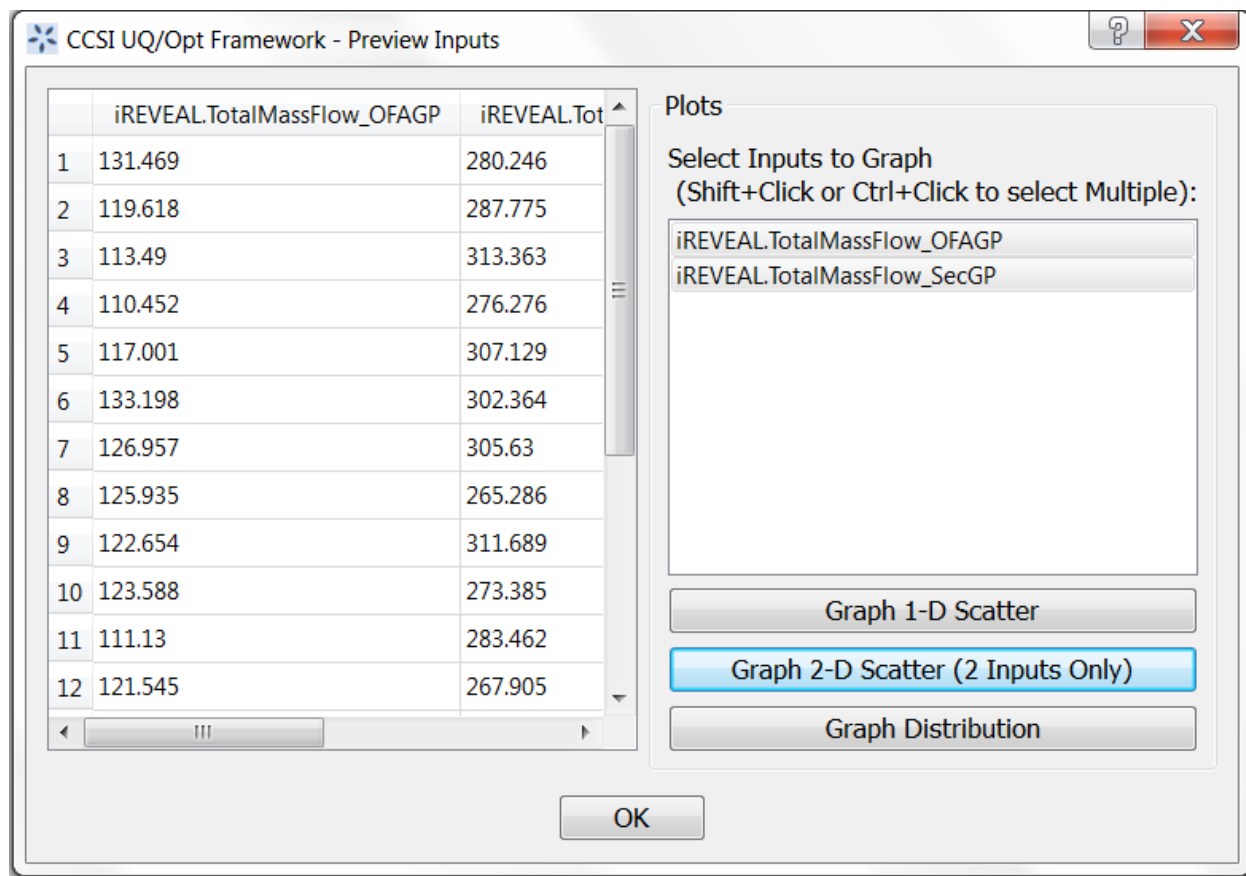
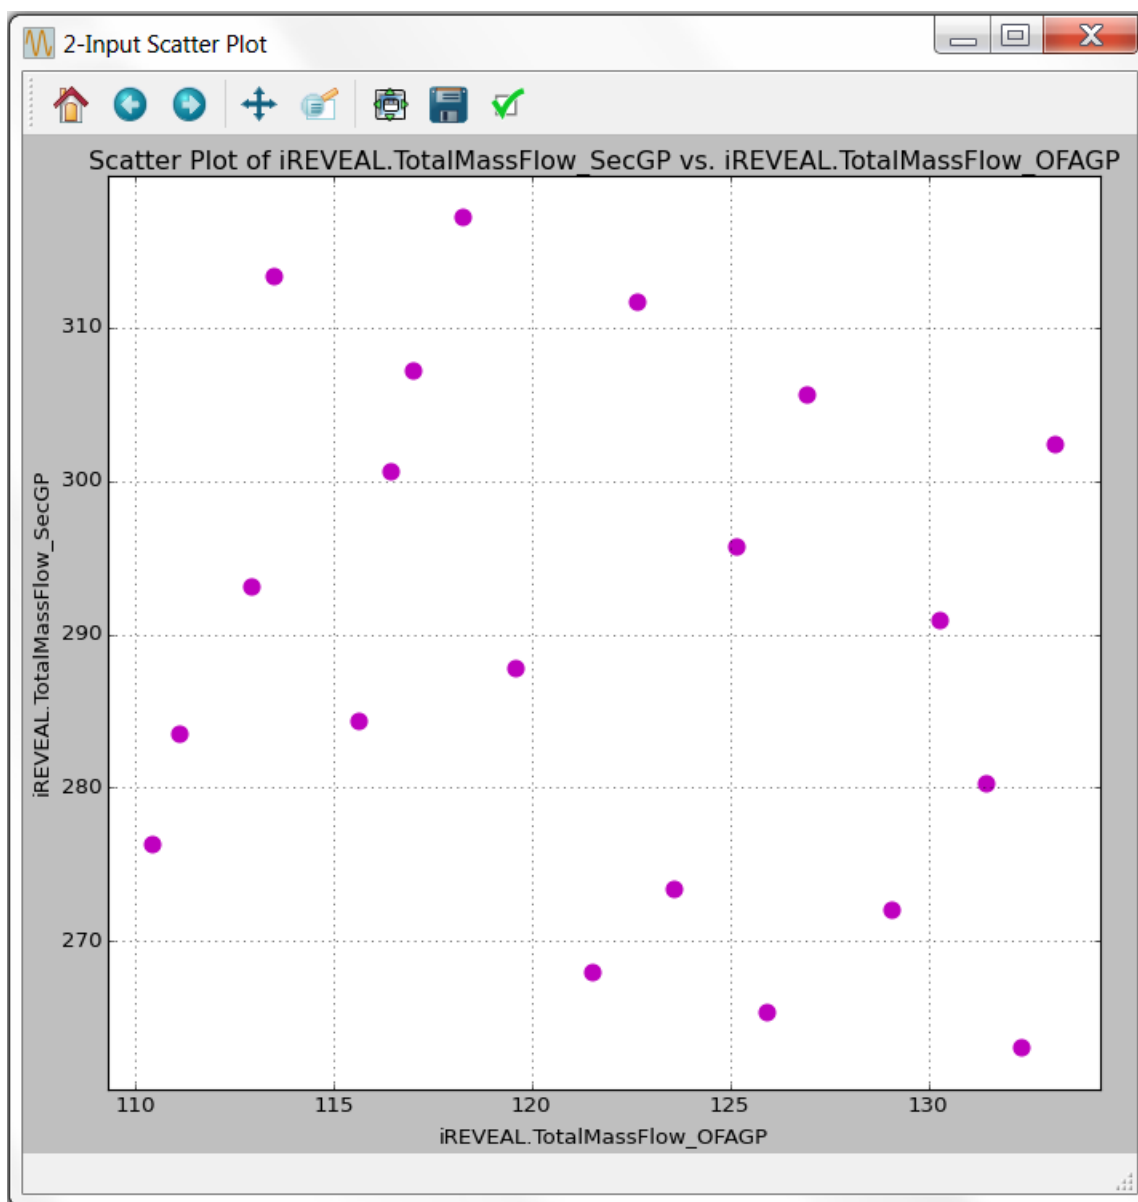

Figure 7: Dialog Window for Previewing Input Samples
Figure 8: 2-D Plot of 20 Sampled Points
4. (Optional) Click “Preview Samples”. A “CCSI UQ/Opt Framework – Preview Inputs” dialog window as shown in Figure 7 displays. The samples of input data are tabulated on the left and the user can use the data to setup the input files for the CFD cases. The input data can be visualized in 1-D and 2-D plots using the widgets shown on the right side of the window. Figure 8 shows the 2-D plot of the 20 sample points. Note: Since the Latin Hypercube sampling algorithm is random in nature, the samples obtained by the user may be different from those shown in Figure 8. Click “OK” to close the plot window.